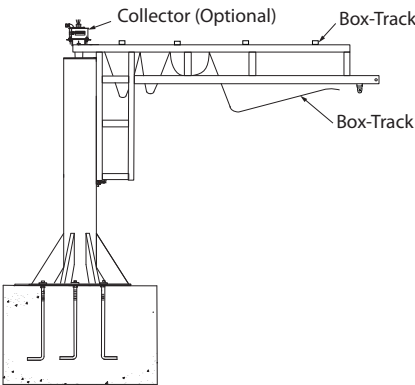

Figure 5B
3. Box track festoon (Figure 5B)